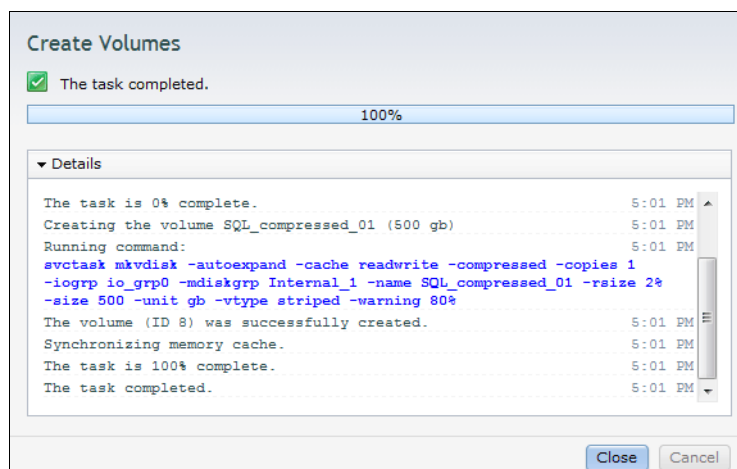

Figure 6-22 Compressed Volume- CLI command displays
4. The Compressed volume creates while the CLI command displays Figure 6-22 on page 256.